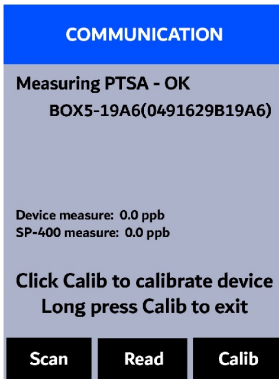

Figure 24.
11. Press **Read** (**>**) to see PTSA measurement from the SP-400 along with the sensor measurement (Figure 24).